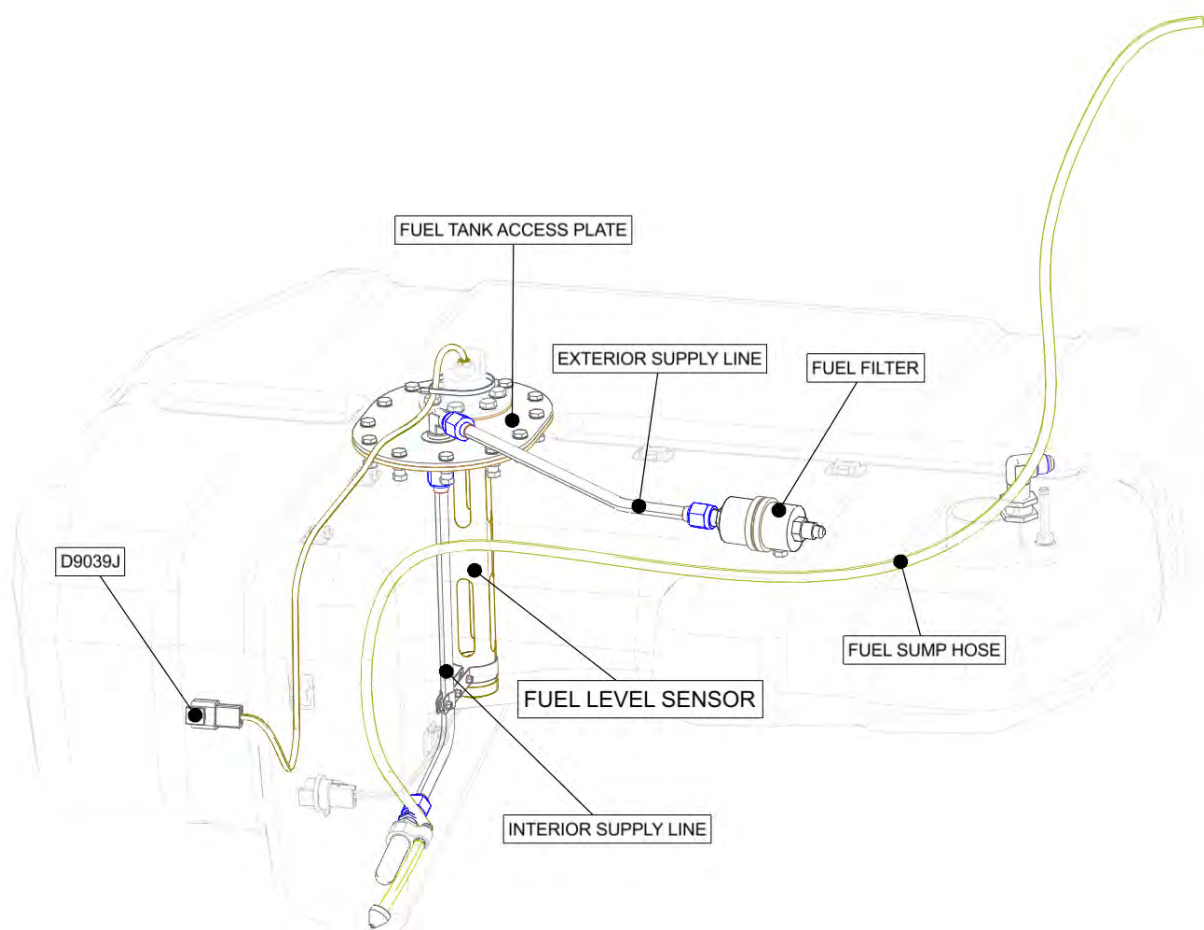

FIGURE 13-34
4. Disconnect the exterior supply line. See Figure 13-34.